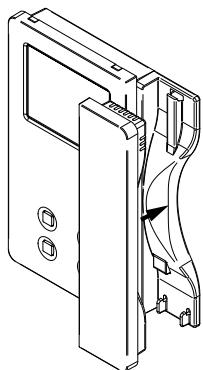

Fig. 7
- Reconnect the handset and hang it as shown in Fig. 7.